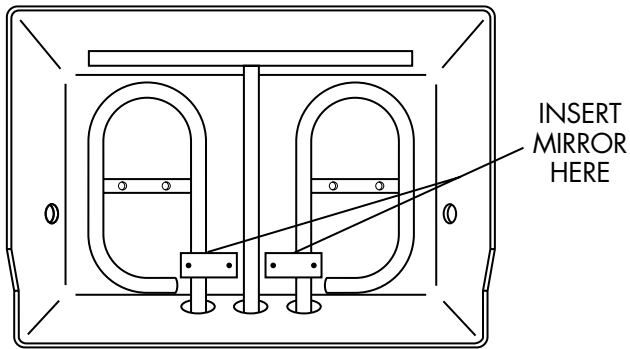
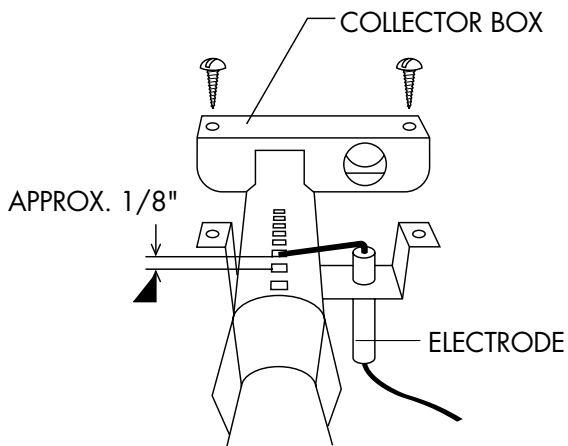
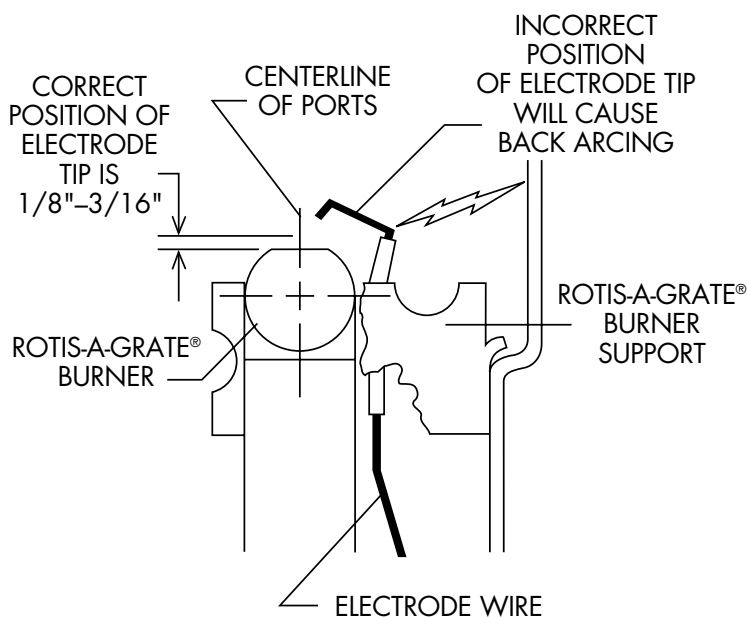

FIG. 22
FIG. 23
FIG. 25
To determine if the electrode is producing a spark at the burner, it will be necessary to view the electrode tip. For rotis burners this is easily done — the electrode is visible behind the center of the rotis burner. Turn the rotary ignitor and view the electrode tip for a spark to the burner. (See Fig. 25) To view the main burner electrodes, remove your SEAR GRID®, briquettes and LA-VA-GRATE®. The electrodes are located in the collector boxes on the beginning section of each main burner. (See Fig. 23 and 24) Turn the rotary ignitor and look for the flash of the spark through the holes in the
collector box. You can also utilize a small mirror positioned behind the collector box and angled to view the arc jumping from the electrode tip to the top surface of the burner. (See Fig. 22 and 23)
3. Be sure your electrode settings are correct. (See Fig. 23)
After shutting off the main gas supply, remove the SEAR GRID®, briquettes and LA-VA-GRATE®. Insert a small mirror or piece of stainless steel behind the collector box (See Fig. 22) and check for a spark at the electrode. The spark should travel from the tip of the electrode to the top surface of the burner. (See Fig. 23 and 25) If there is no spark, then:
8. The dimension from the tip of the electrode to the top surface of the burner is important. It should be approximately 1/8". This is difficult to measure but in viewing with a mirror (Fig. 22) if it appears that this dimension is far too close (1/16" or less) or much too large (3/16" or more) then some adjustment would be necessary. This would require disconnecting from the ignitor the appropriate electrode wire and removing the burner. (See *Maintenance* section — Page 33.) The electrode tip can then be bent down or pushed up as required.